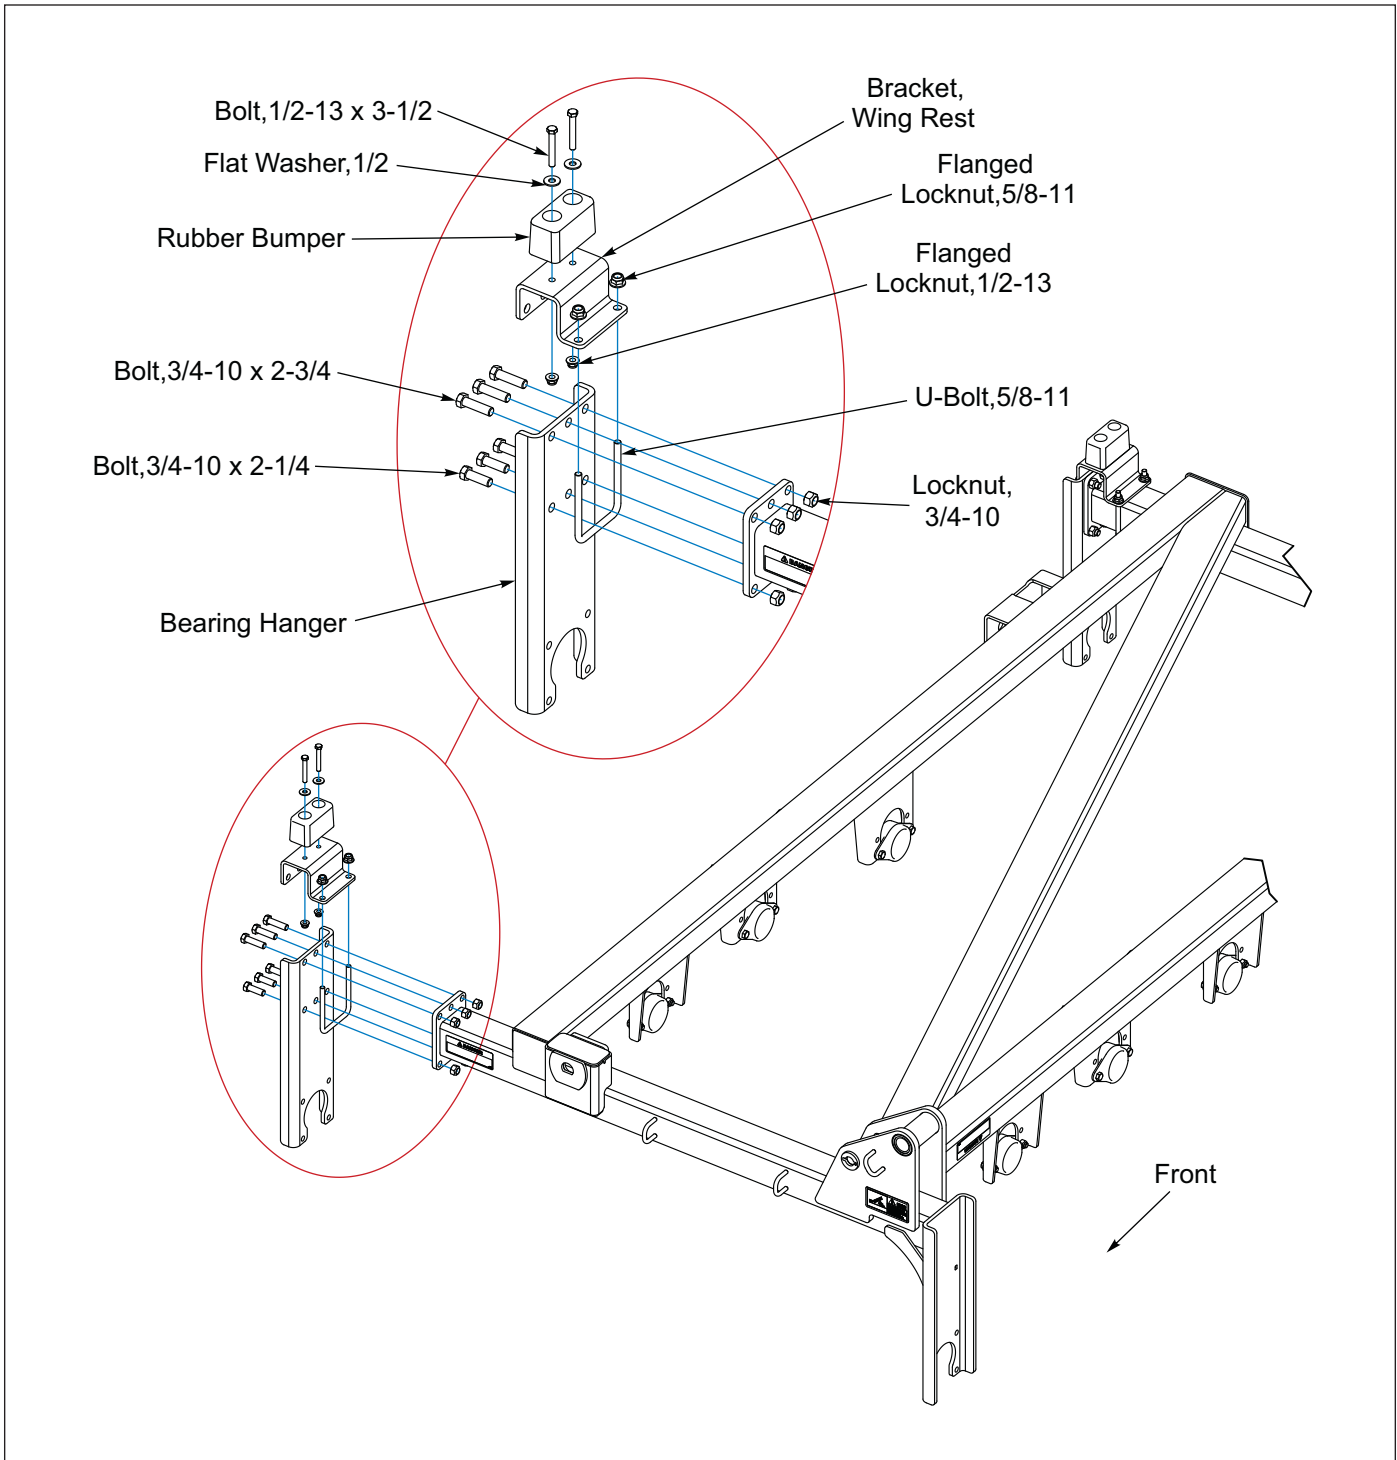

Figure 2-42: Wing Rest and Bearing Hanger
1. Assemble a Rubber Bumper onto each Wing Rest Bracket with 1/2-13 x 3-1/2 Bolts, Flat Washers and Locknuts. **See Figure 2-42.**